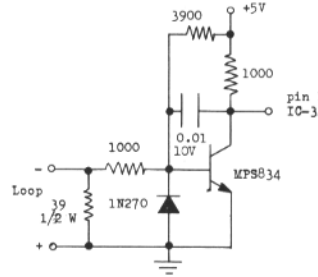

Fig. 3a
The logic diagram of the Speed Converter is shown in Fig. 1. The input section consists of W6JVE's Standard Voltage Interface (2). (Alternate arrangements are shown in Figs. 3a & b.) Since the standard for mark and space is negative and positive voltage levels respectively, the output of Q1 is \bar{m} mark and is thus labeled "data". Since the input impedance of TTL logic is fairly low, the output of Q1 is buffered by two inverters. Two inverters are necessary to preserve the sense of the signal.